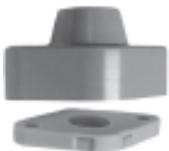

Fig 16-1
1. Bolt bearing and Glove® base to machine frame. Note slot direction on base in Fig 16-1.
2. Snap Glove® cover over bearing assembly as per Fig 16-1.